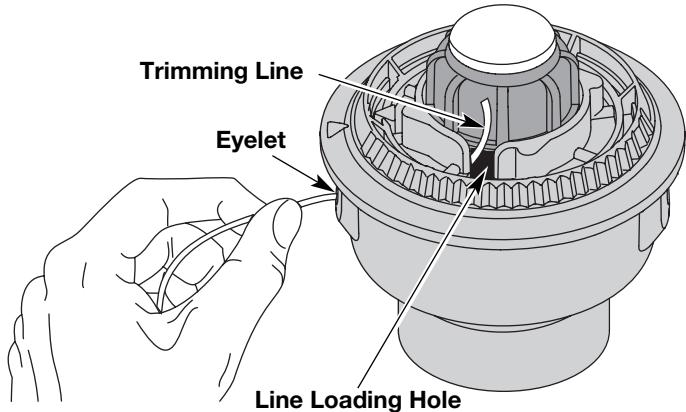

Fig. 13
- Pull old line out of the line loading and line locking holes (Fig. 13 and 14).
- Insert a piece of trimming line straight into one of the two eyelets in the outer spool. Push it up through the line loading hole in the inner reel (Fig. 13). Do not bend the line when inserting it into the eyelet.